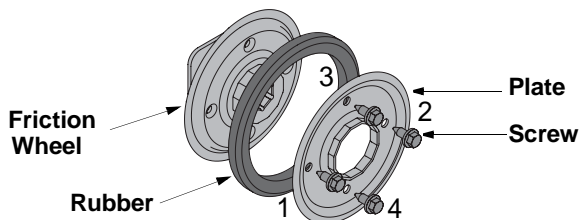

Figure 29
- Reassemble new bonded friction wheel rubber to the friction wheel assembly, turn each screw approximately 2 turns in order shown in Figure 29 until screws are tight. It is important for the rubber to be assembled symmetrically.